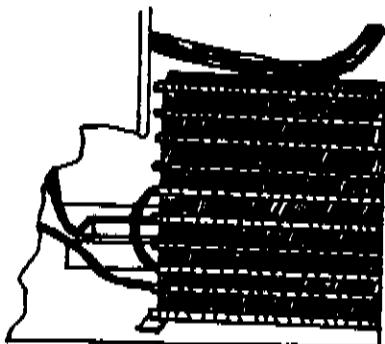

FIG. 22
- a) CONDENSATE PAN: Check to make certain that the condensate pan is in its proper position. Check the drain tubing leading to the pan seeing that it is secured with a clip and free of kinks. SEE FIGURE 22